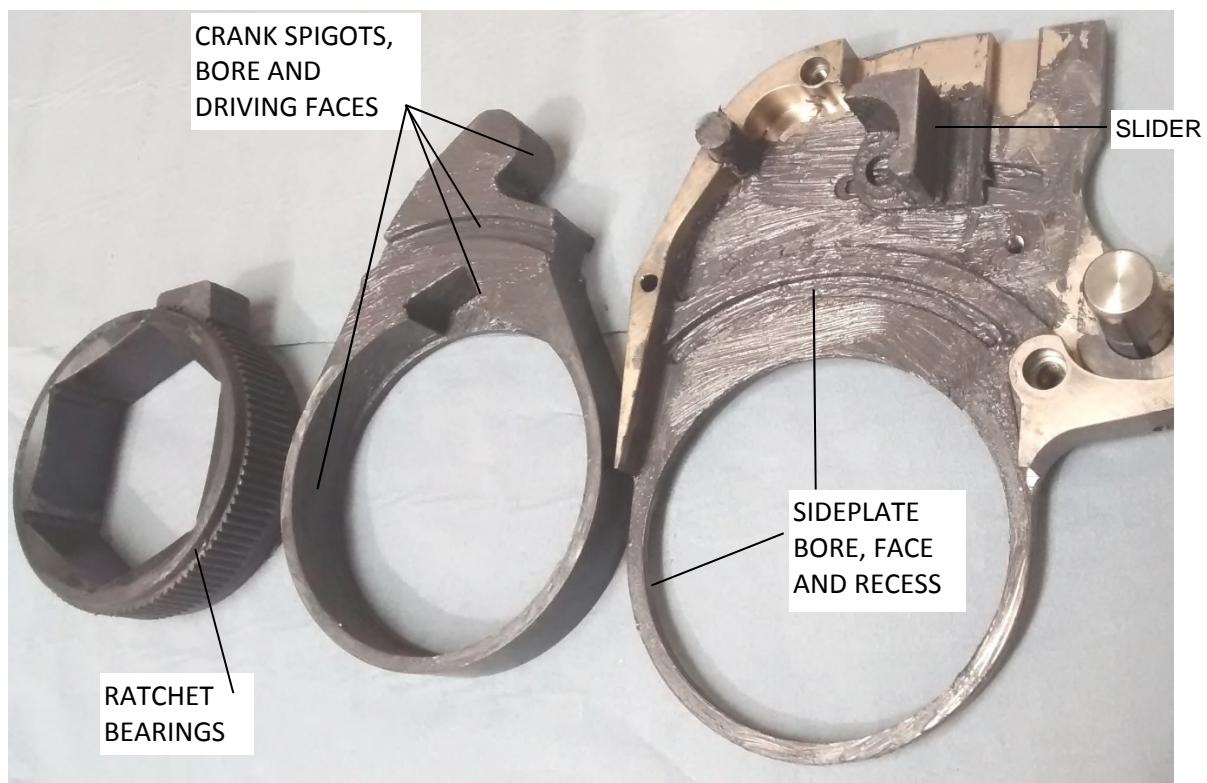

Figure 9. Link Lubrication
See figure 9. Before assembly, apply a liberal coat of Revol R5 Moly Anti Seize to the following areas:
1. See figure 9. Lay the LH sideplate on a flat surface. Place the slider into position and verify the pin on the slider face engages with the groove in the sideplate.